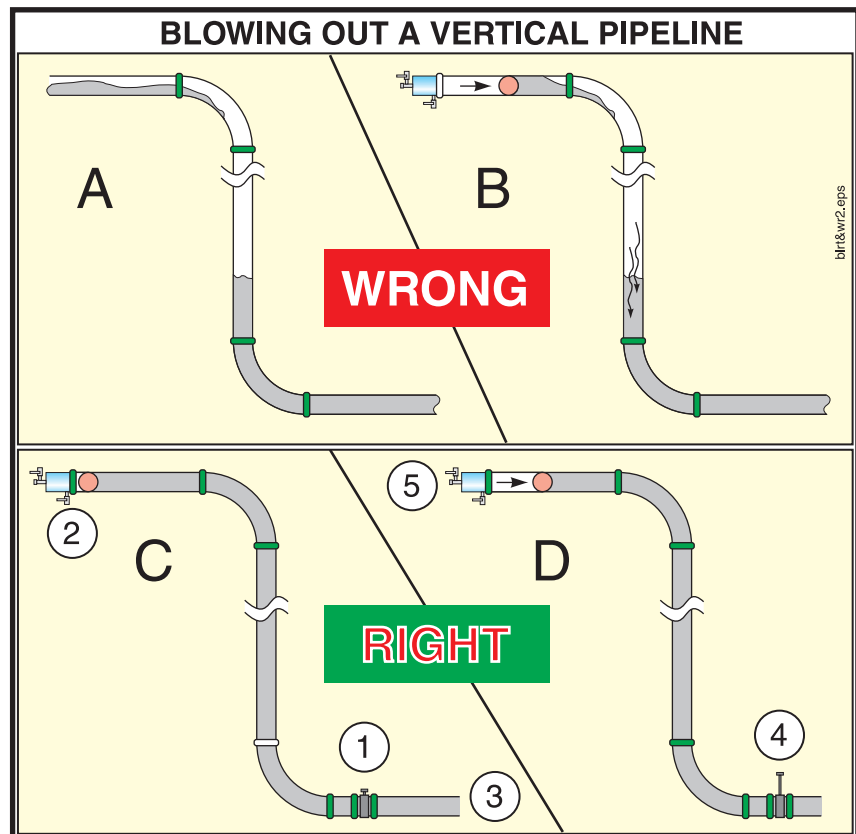

Figure 61
1. (See diagram A in Figure 61.) Without a shutoff valve installed, the pipeline is disconnected from the pump. Immediately, the concrete drains out of the vertical sections of pipe, leaving concrete in both horizontal sections, and air trapped in between.
- (See diagram B in Figure 61.) The ball is inserted, and pushed with compressed air. This also compresses the air that is trapped in the vertical sections of pipe. The trapped air will be violently expelled when it reaches the end of the pipe, but the pipe will not yet be empty.
4. **When pumping is complete, close the shutoff valve before disconnecting the pipeline from the pump** (item 1, Figure 61). Failure to do this will cause the concrete to fall out of the vertical sections of pipe, leaving concrete in the horizontal sections of pipe and an air pocket in the vertical sections. This does not apply if you are using a switching (diversion) valve.
5. Install the ball(s) in the pipeline, secure the blow out head and hook up the air compressor. **Do not apply the air yet!** (Item 2, Figure 61.)
7. **Position the ready mix truck at the cleanout standpipe**, or install the ball catcher or other containment device at the end of the discharge line. (Item 3, Figure 61.)
9. **Divert the vertical pipe line to the clean out area, or open the shutoff valve in the delivery pipe line now.** Allow gravity to start the concrete moving through the discharge line. As the concrete falls from the vertical sections, it will take the ball with it, making it impossible to trap air in the line. (Item 4, Figure 61.)
10. **Apply the compressed air to the pipeline.** Close communications must be maintained at this time. Add only enough air to keep the concrete moving. Do not allow the concrete to accelerate. (Item 5, Figure 61.)